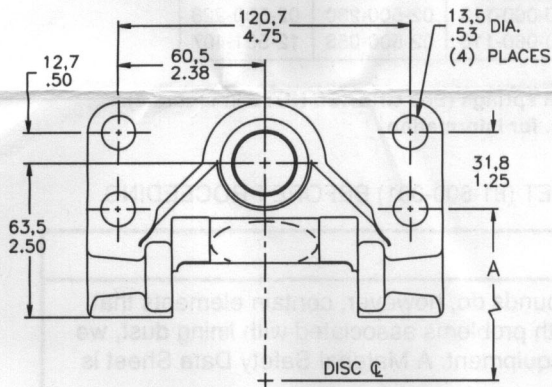

FIGURE 3 **RECTANGULAR MOUNT**
- Using Table 2 and Figures 3 & 4 on page 2, determine "A" dimension and locate mounting bracket assembly holes.